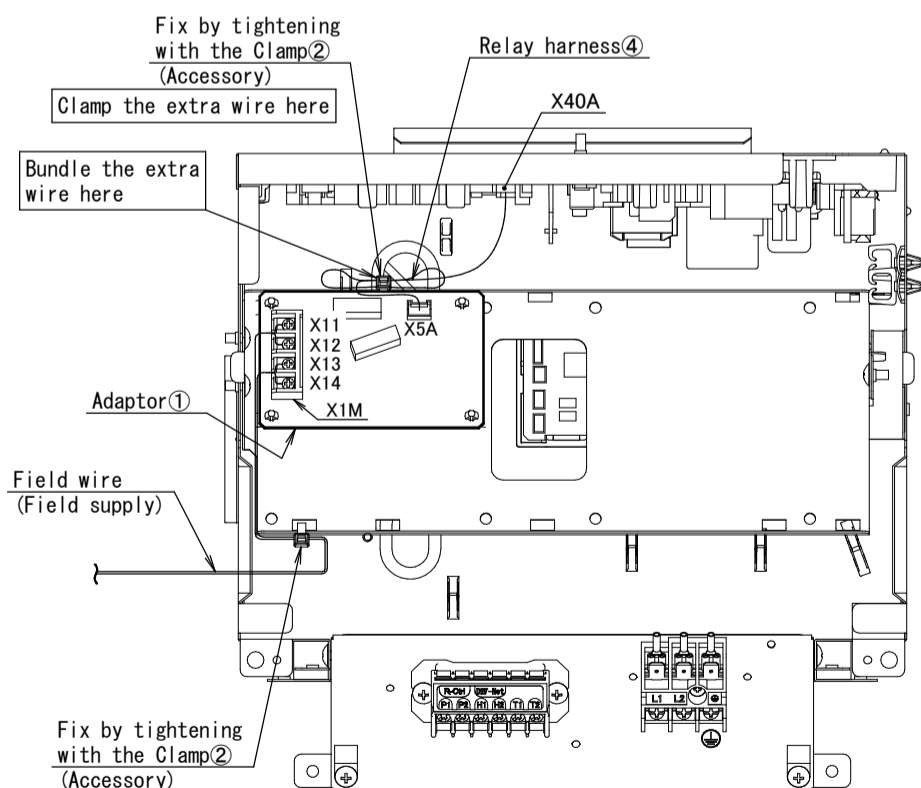

Figure 2
- (1) Connect the Relay harness④ to the indoor unit. (Figure 2)
- (2) Connect the field wires to the external devices.
- (3) Fix the connected wires with the Clamp②. (Figure 2)